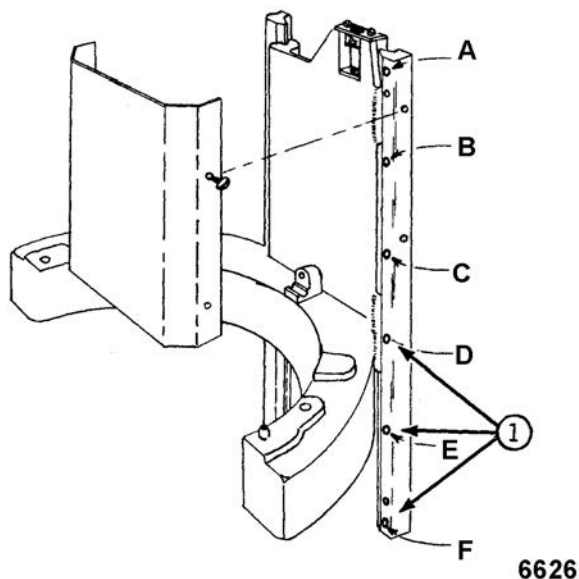

Fig. 125
3. Raise bowl support to its top position and remove the paint from the heads of the three bottom screws on the right-hand slideway [1] Fig. 125.